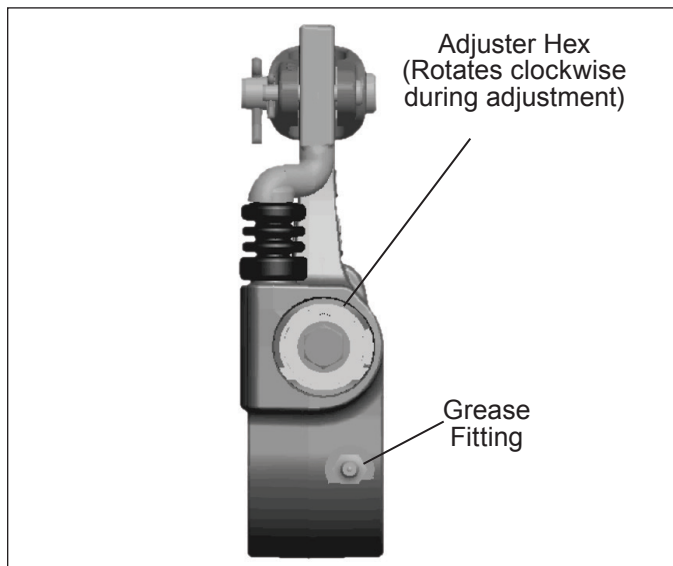

Figure 6 - Testing The Adjuster Mechanism
2. Using a straight edge, scribe a line across the manual adjustment hex head and slack adjuster body. (Refer to Figure 6).